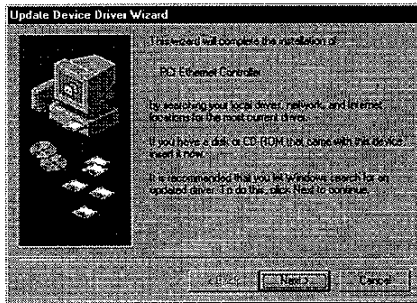

Figure 11. Update Device Driver Wizard-1
step2. Windows 95 will detect the SOHware™ Fast adapter and the *Update Device Driver Wizard* will open (**Figure 11**)